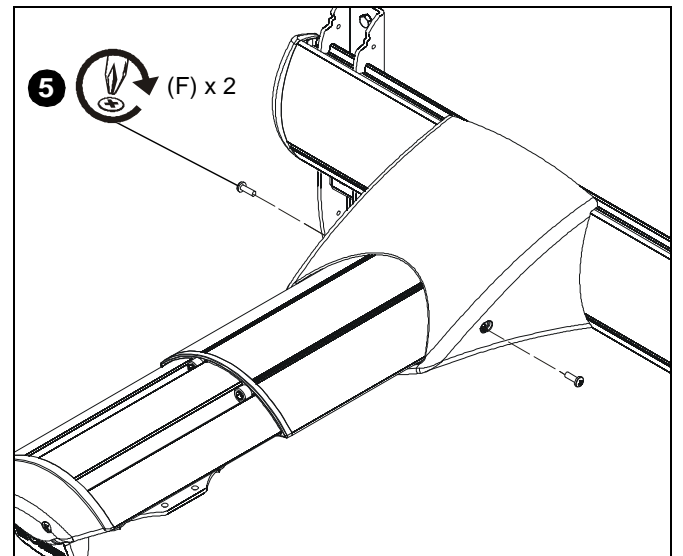

Figure 14
9. Install two #8-32 x 1/2" Phillips pan machine screws (F) through holes on sides of outer cover. (See Figure 14)